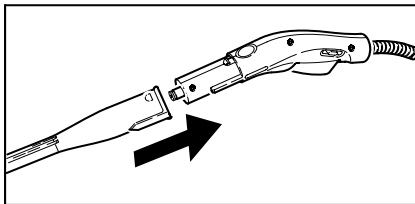

Figure 3
- Connect the required accessories (D1, E1) with the steam gun (C1). Insert the open end of the accessory on the steam gun and push onto the steam gun until the unlocking button (C2) of the steam gun locks into place (see Fig. 3).